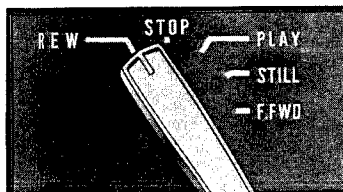

Fig. 7
The tape is rewound rapidly. The Tape Counter ⑧ helps you locate any recorded portion on the tape. When completely rewound, the tape stops automatically, then reset the Lever to the STOP position. (Fig. 7)